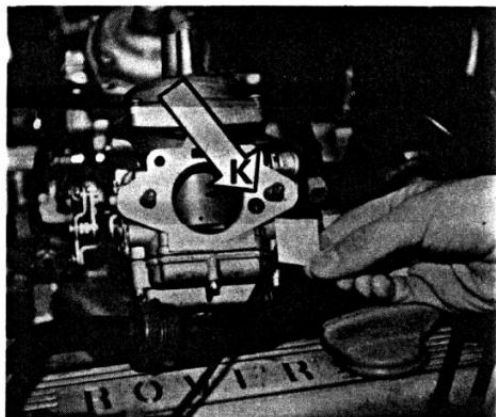

FIG. 91
18. Unseal both temperature compensator passages **Fig. 91** unsealing should have no effect on the **air flow reading**, engine speed or mixture setting.